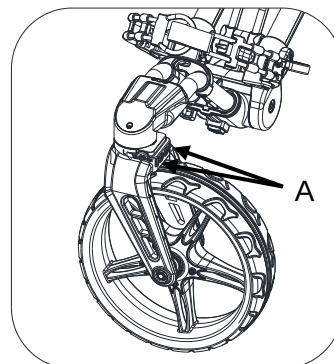
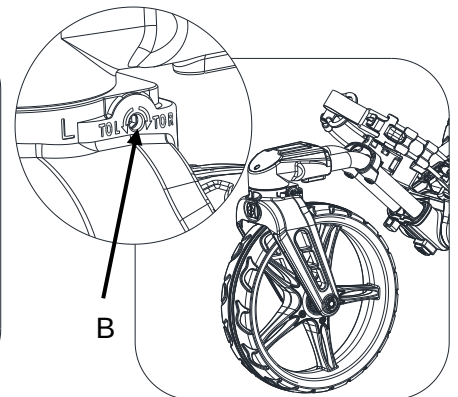

Fig. 29
Fig. 30
If the cart veers to the RIGHT: use the Allen wrench (as shown in Fig. 28.) to loosen the 2 screws (A) on the backside of the front wheel frame, as shown in Fig. 29. Then adjust the front wheel to the center position by turning the screw (B) counterclockwise as shown in Fig. 30. Tighten the 2 screws (A) after the front wheel alignment is done.
If the cart veers to the LEFT: use the Allen wrench (as shown in Fig. 28) to loosen the 2 screws (A) on the backside of the front wheel frame, as shown in Fig. 29. Then adjust the front wheel to the center position by turning the screw (B) clockwise as shown in Fig. 30. Tighten the 2 screws (A) after the front wheel alignment is done.